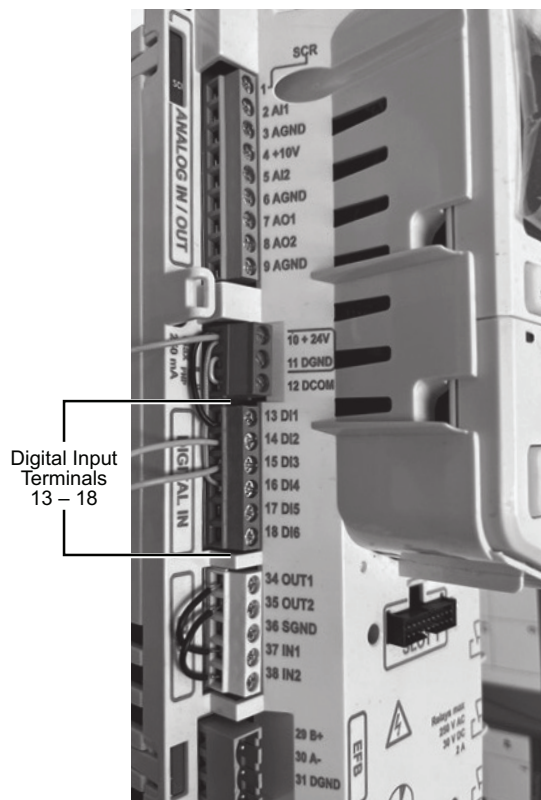

Fig. 42 — Digital Input Terminal Block Location on ACH580 VFD
3. Disconnect the DI1 input at Terminal 13 (see Fig. 42 for location of DI1).